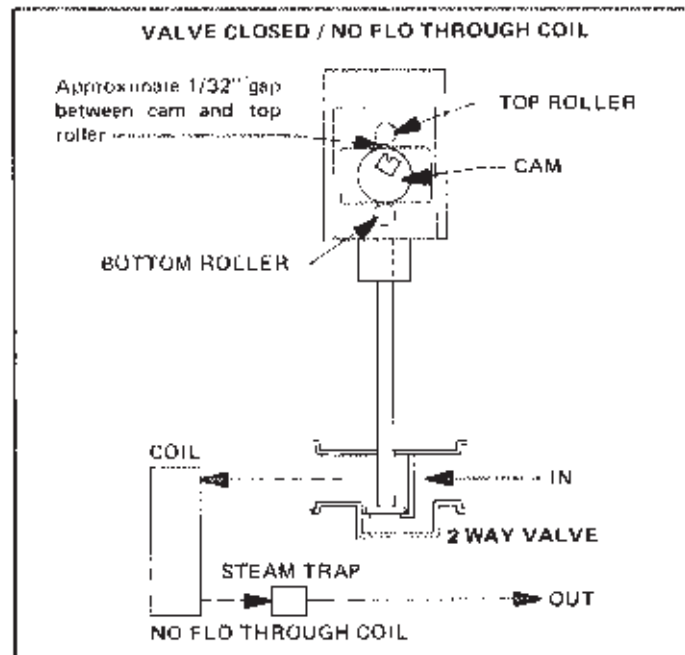

FIGURE 57
- 2 - Remove wire from terminal # 1 on A7 to motor valve. Put jumper across C and F terminals on motor. Motor shaft should rotate counter clockwise, lowering valve stem. Refer to Figure 57.